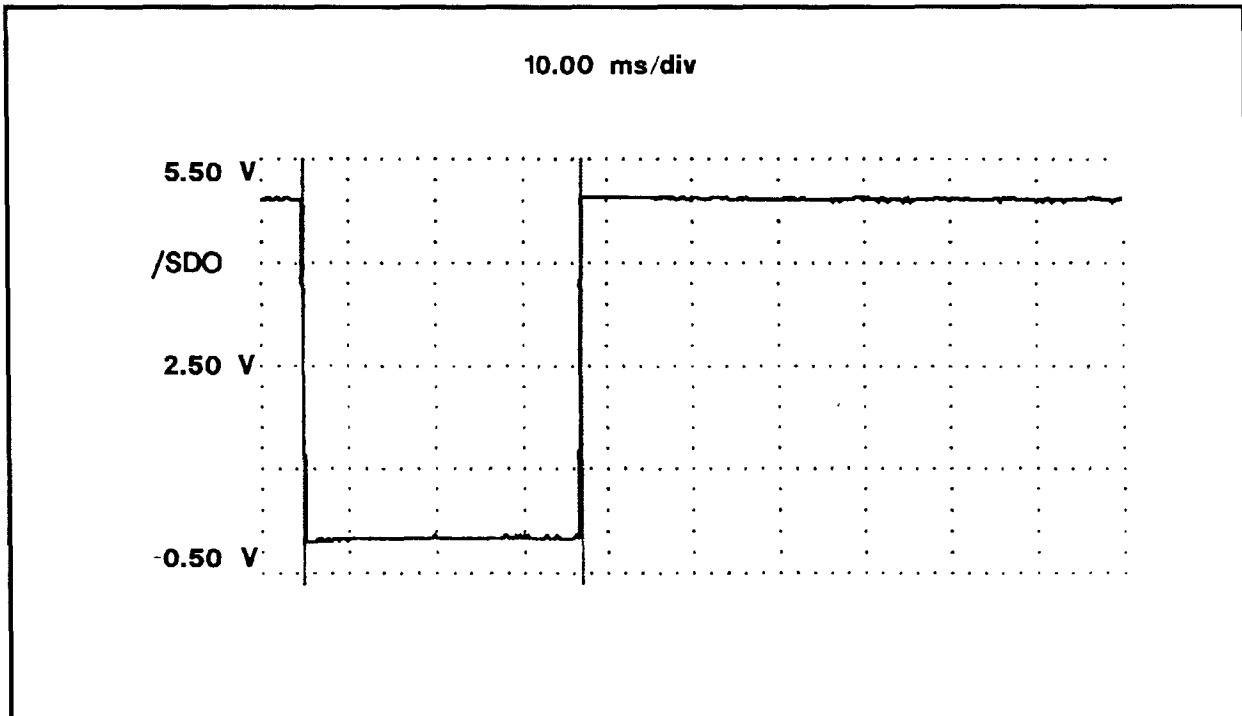

Figure 3-31. TEST 2 or COMMON 2 Scanner PCB /SDO Waveform.
13. Next observe TEST 2 Scanner PCB /SDO at U1-pin 10 while repeating the Relay Check utility and compare with Figure 3-31. If different, then troubleshoot U1-pin 10 (/SDO output), 1.A5.U1-pin 11 (/SDO input), and 1.A5.U2-pin 39 (Serial Data Out). If the /SDO signal appears to be shorted, then it may be necessary to troubleshoot off this PCB to either the Backplane PCB or the Digital PCB. Refer to the appropriate sections of this manual if needed.